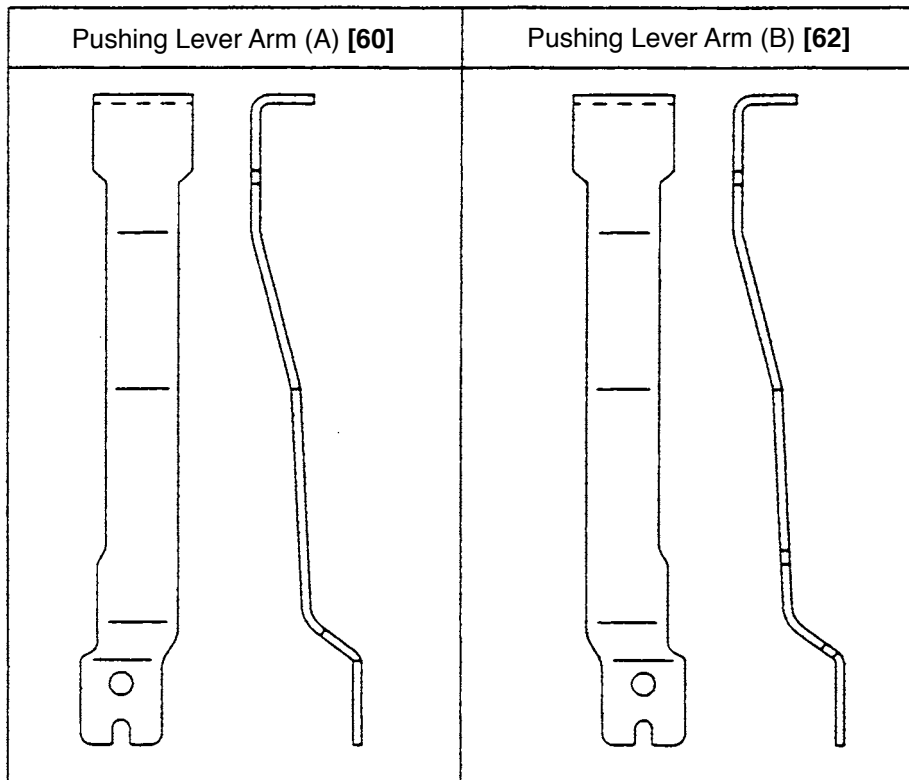

Fig. 42
- Be careful of the mounting direction of Pushing Lever Arms (A) [60] and (B) [62] (Fig. 42). Align the notch of Pushing Lever Arm (A) [60] or (B) [62] with the convex portion of the Pushing Lever Connector [68]. Secure the U-Nut M4 [59] with a spanner (7 mm (0.276")) or slender hd. pliers and tighten the Hex. Socket Hd. Bolt M4 x 10 [61].